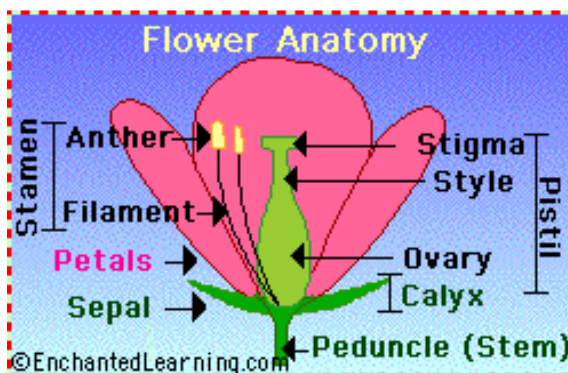

Figure 2.
**ANTHER** is the tip of a flower's stamen. The anther contains the pollen. Refer to Figure 2.
**CALYX** is the sepal of a flower. *Refer to Figure 2.*
**FILAMENT** is the part of the flower that holds the anther. *Refer to Figure 2.*